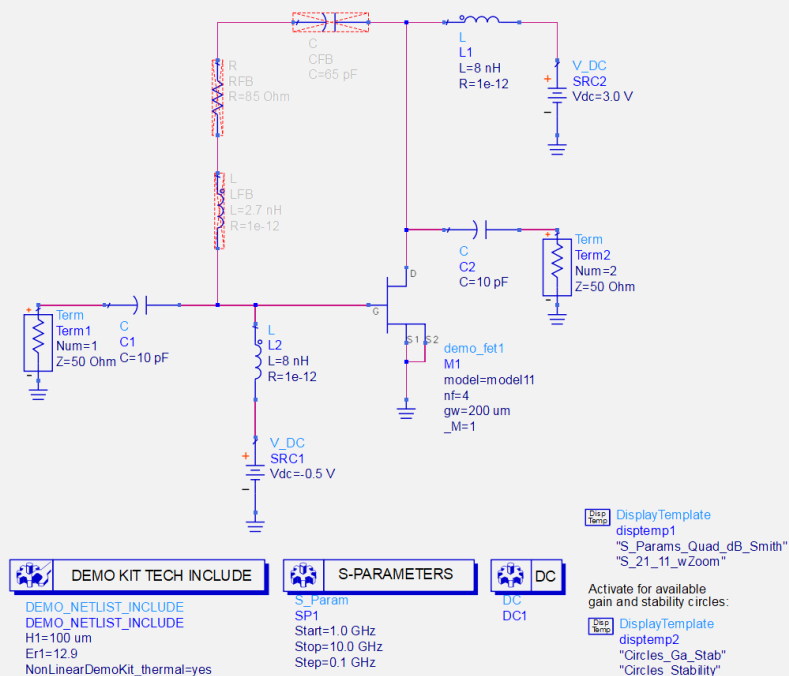

Figure 32. Final schematic with template added
- The template that you added has everything needed for analysis. Connect the two terminations to your design. Make sure to place Term1 on the input and Term2 on the output. The final schematic is shown in Figure 32.